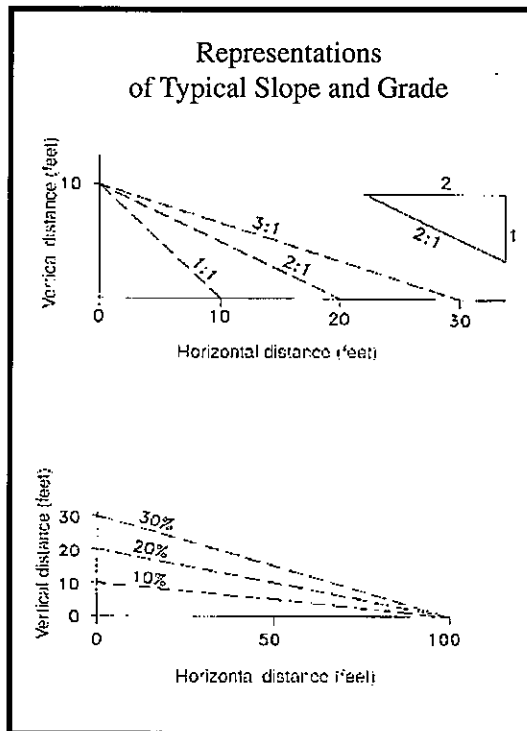

Figure ROAD-4
- ✓ **Avoid constructing roads with grades in excess of 10%.** See Figure ROAD-4.